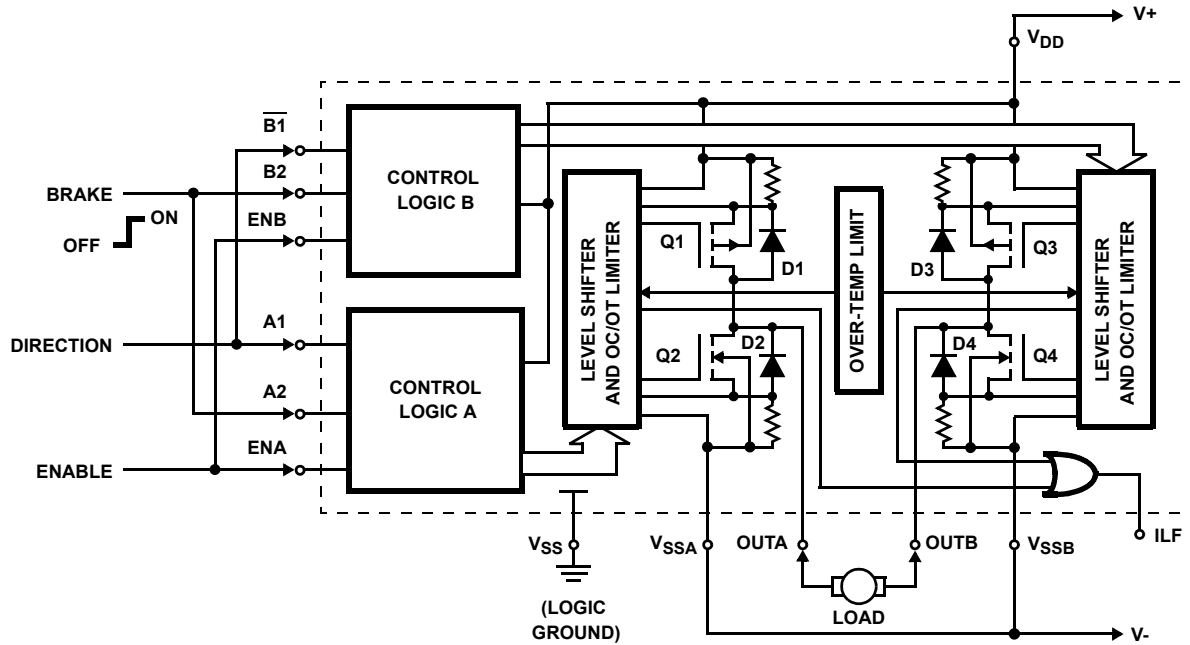

FIGURE 1. TYPICAL MOTOR CONTROL APPLICATION CIRCUIT SHOWING DIRECTIONAL AND BRAKING CONTROL
- Refer to the Truth Table and the V_{EN} to V_{OUT} Switching Waveforms. Current, I_O refers to I_{OUTA} or I_{OUTB} as the Output Load current. Note that ENA controls OUTA and ENB controls OUTB. Each Half H-Switch has independent control from the respective A1, A2, ENA or B1, B2, ENB inputs. Refer to the Terminal Information Table for external pin connections to establish mode control switching. Figure 1 shows a typical application circuit used to control a DC Motor.
The HIP4020 is designed to detect load current feedback from sampling resistors of low value in the source connections of the output drivers to V_{DD} , V_{SSA} and V_{SSB} (See Figure 1). When the sink or source current at OUTA or OUTB exceeds the preset OC (Overcurrent) limiting value of 550mA typical, the current is held at the limiting value. If the OT (Over-Temperature) Shutdown Protection limit is exceeded, temperature sensing BiMOS circuits limit the junction temperature to 150°C typical.
The circuit of Figure 1 shows the Full H-Switch in a small motor-drive application. The left (A) and right (B) H-Switch's are controlled from the A and B inputs via the A and B CONTROL LOGIC to the MOS output transistors Q1, Q2, Q3 and Q4. The circuit is intended to safely start, stop, and control rotational direction for a motor requiring no more than 0.5A of supply current. The stop function includes a Dynamic Braking feature.